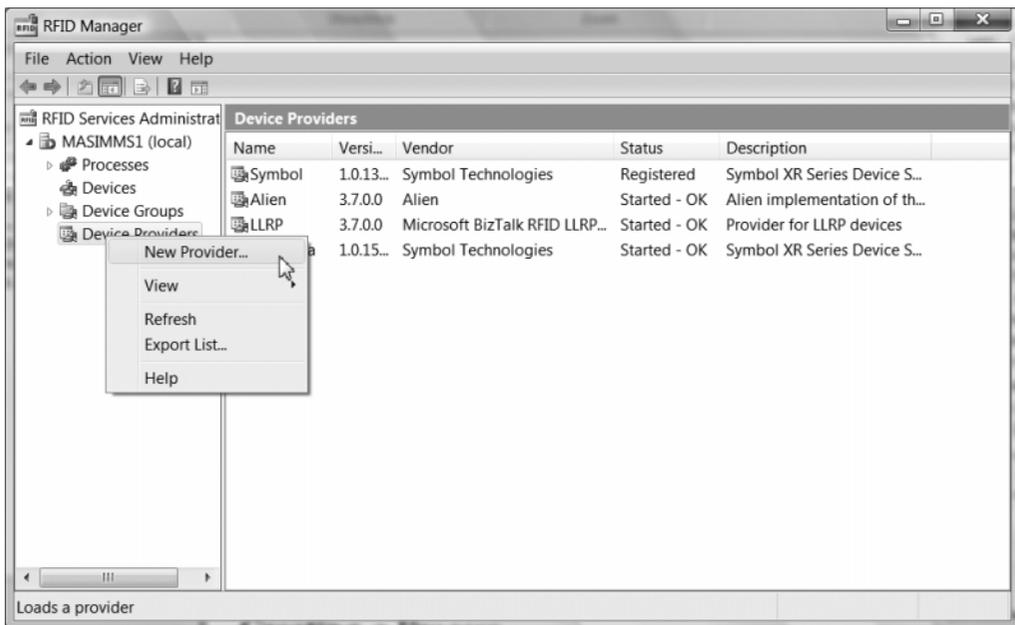

Figure 3-4. Adding a provider in RFID Manager
2. Expand the computer name and click Device Providers. Right-click Device Providers to bring up the context menu, and click New Provider, as shown in Figure 3-4.
7. Click OK to finish adding the provider. It should now be visible in the list of registered providers. Note that the other providers loaded in Figure 3-4 are not available out of the box. This screenshot was taken on a machine with several real device providers already loaded.